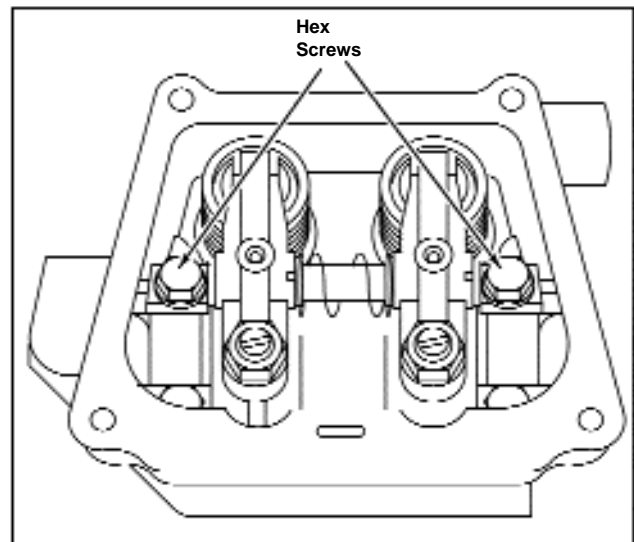

Figure 88 - Removing Rocker Arm Shaft
1. Remove two (2) hex. screws holding rocker arm shaft to cylinder head, Figure 88.